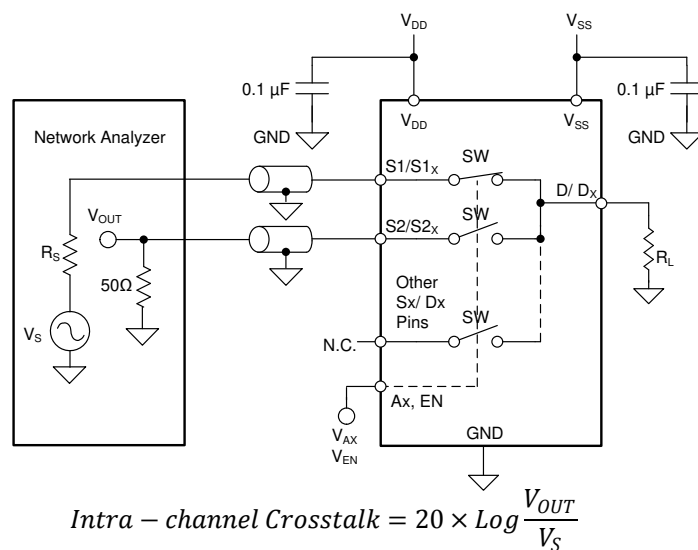

Figure 8-13. Intra-channel Crosstalk Measurement Setup
1. Intra-channel crosstalk ($X_{TALK(INTRA)}$): the voltage at the source pin (S_x) of an off-switch input, when a $1-V_{RMS}$ signal is applied at the source pin of an on-switch input in the same channel, as shown in Figure 8-13.